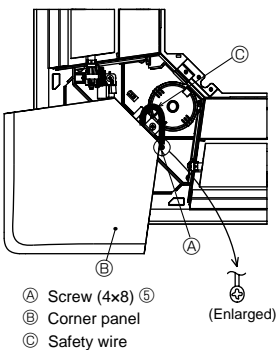

Fig. 5-9
5.5. Installing the intake grille (Fig. 5-9)